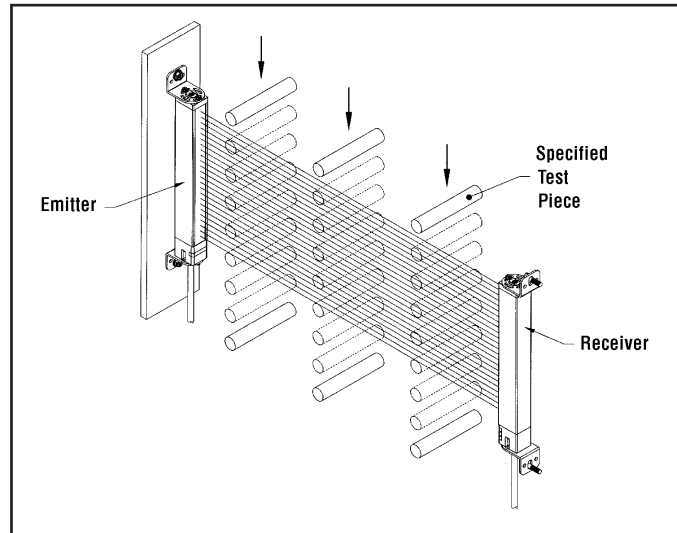

Figure 30. Use of test piece
- b) With the guarded machine at rest, slowly pass the appropriate specified test piece downward through the defined area at three points: close to the receiver column, close to the emitter column, and midway between the emitter and receiver columns (Figure 30). In each case, the red status indicator should come ON and remain ON for as long as the test piece is within the defined area. When the test piece is withdrawn from the defined area, the green status indicator should come ON. If the green indicator comes ON at any time when the test piece is within the defined area, check for reflective surfaces, or unguarded areas created by use of fixed blanking (see Warnings, page 48). Do not continue until the situation is corrected. (See sections 3.2.2 and 3.2.4).
emitter and receiver columns (refer to Figure 30). In each case, the red indicator must come ON and remain ON for as long as the test piece is within the defined area. When the test piece is removed from the defined area, the green status indicator should come ON (if Blanking is ON, the green status indicator will be flashing). If the green status indicator comes ON at any time when the test piece is within the defined area, check for reflective surfaces, or unguarded areas created by the use of fixed blanking (see Warnings, page 48). **Do not continue until the situation is corrected.** (See Section 3.2.2 and 3.2.4.)